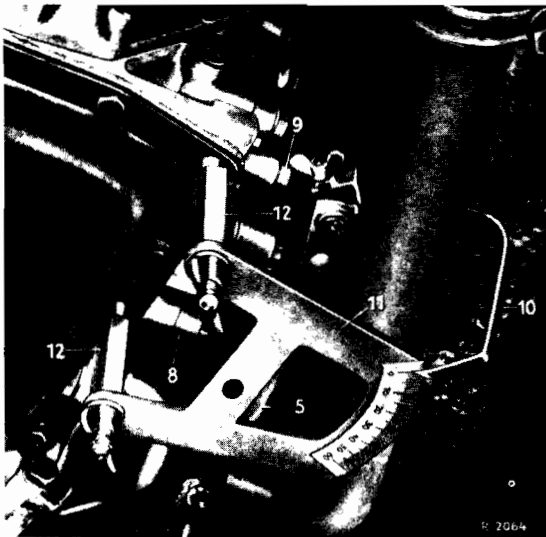

Fig. 27-4/7
The ball cup of the control rod (5) must fit the ball head (4) without forcing. If this is not the case the control rod length must be corrected before any further checks are made (Fig. 27-4/8).
The pointer (10) attached to the operating lever of the modulating pressure transmitter is set to the zero mark of the graduated disk (11) Part No. 1105890021 00 (Fig. 27-4/7). When this is being done the operating lever of the modulating pressure transmitter must rest against its zero stop (set screw) and the engine throttle valve must be closed.